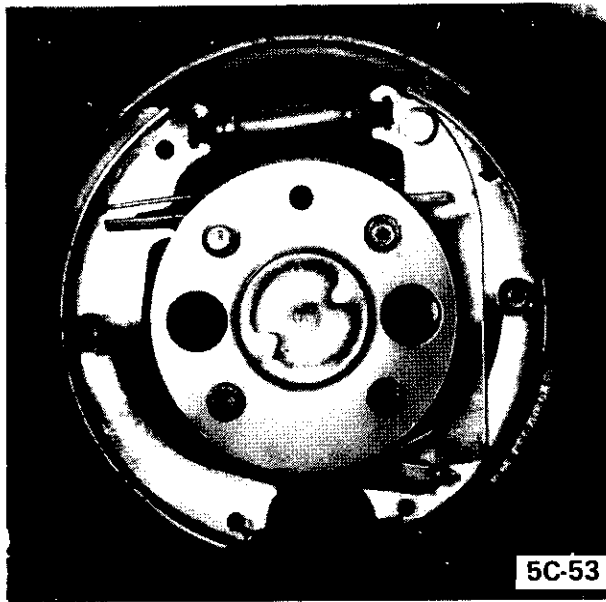

Figure 5C-53 Rear Brake Assembly
10. Check all backing plate attaching bolts to make sure they are tight. Using line emery cloth, clean all rust and dirt from shoe contact surfaces on plate. See Figure 5C-53.